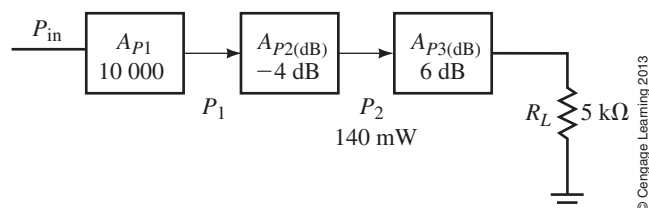

FIGURE 22–50
20. Suppose that the system of Figure 22–51 has an output voltage of 2 V.